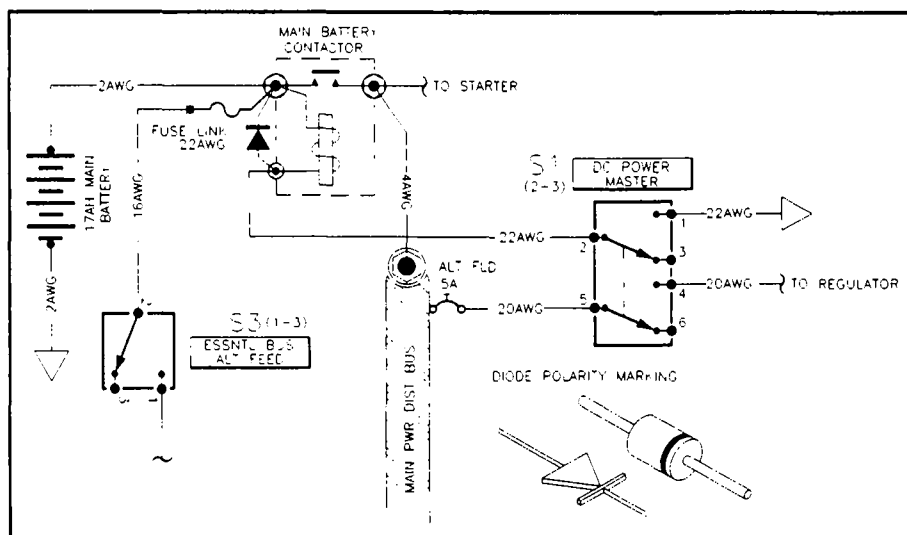

Figure 11-20. Battery Master Contactor Wiring.
**Battery Master Contactors** - everyone needs at least one. The ship's battery is capable of serious output of hundreds of amps - way too much to manage with manual switches. Primary control of batteries is delegated to the battery master contactor. Figure 11-20 illustrates typical battery master contactor wiring. Note that I've shown a 3-terminal contactor, but it could just as easily have 4 terminals. In this case, coil terminal has been internally wired to one of the large terminals. Many times the large terminal will be stamped "BAT" by the contactor manufacturer. If you use a 4-terminal device, you'll have to provide your own jumper between the upper coil terminal and the always-hot battery terminal.
Diodes are very easy to obtain and the only caveat in their use is to observe the polarity of the device as compared to its schematic symbol. These are illustrated in Figure 11-20. One further item to point out: note that there is no circuit breaker associated with the control circuit of a battery master contactor. This is because there are no failure modes that would burn the wire. Opening the wire simply causes the contactor to fail to function. A grounding of the wire causes the contactor to be continuously energized . . . it will certainly run the battery down but it doesn't put the wire in jeopardy. This is in contrast to the other circuit which shares a DC Power Master Switch - the alternator field circuit is supplied from the bus. Faults on this wire are quite capable of smoking the wire . . . besides, this is the lead that gets deliberately faulted by a crowbar OV module . . . we always put a breaker in this line.